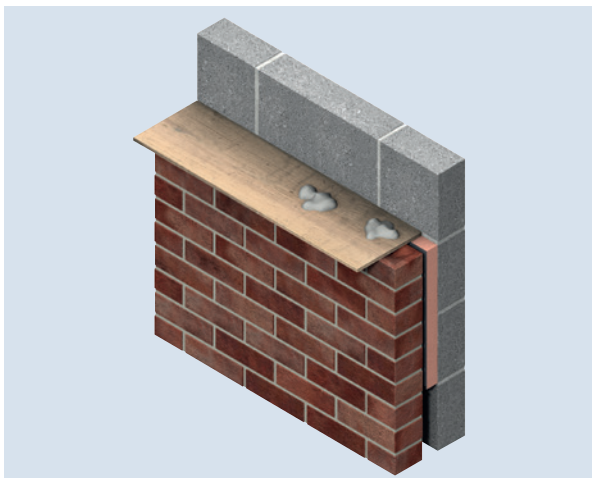

Figure 8 – Use of a Cavity Board to Protect the Cavity and Insulation Board Top Edge
- Use of a cavity batten or cavity board is recommended to protect board edges and maintain a clear cavity (see Figures 8 & 9) or refer to BBA Certificate 16/5299.